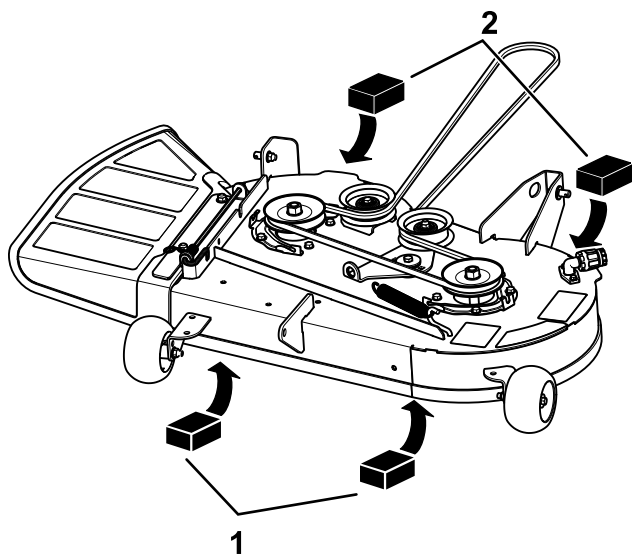

Figure 70
4. Place 2 blocks, each having a thickness of 6.6 cm (2-5/8 inches), under each side of the front edge of the deck but not under the anti-scalp roller brackets (Figure 70).
5. Place 2 blocks, each having a thickness of 7.3 cm (2-7/8 inches), under the rear edge of the cutting deck skirt, 1 on each side of the cutting deck (Figure 70).